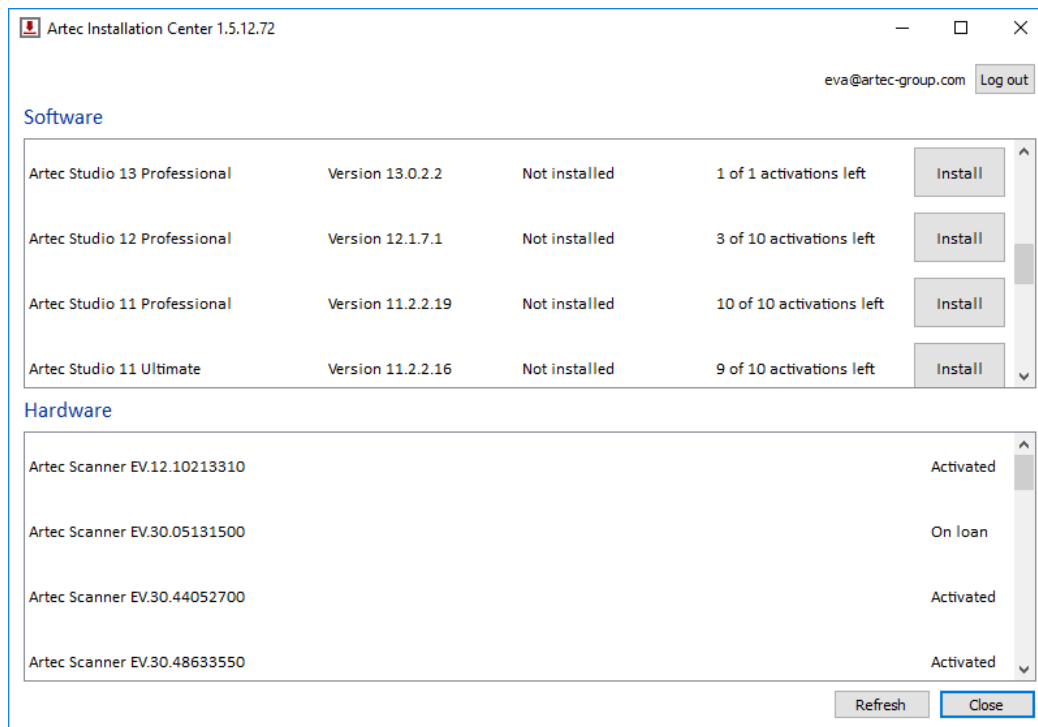

Figure 46: Artec Installation Center.
You may need to change my.artec3d account. Artec Installation Center displays the current user email in the top-right corner (Figure 46).
1. Run Artec Installation Center (go to the Start menu: click *Start* → *All Programs* → *Artec Group* → *Artec Installation Center*) to bring up the window shown in Figure 46.